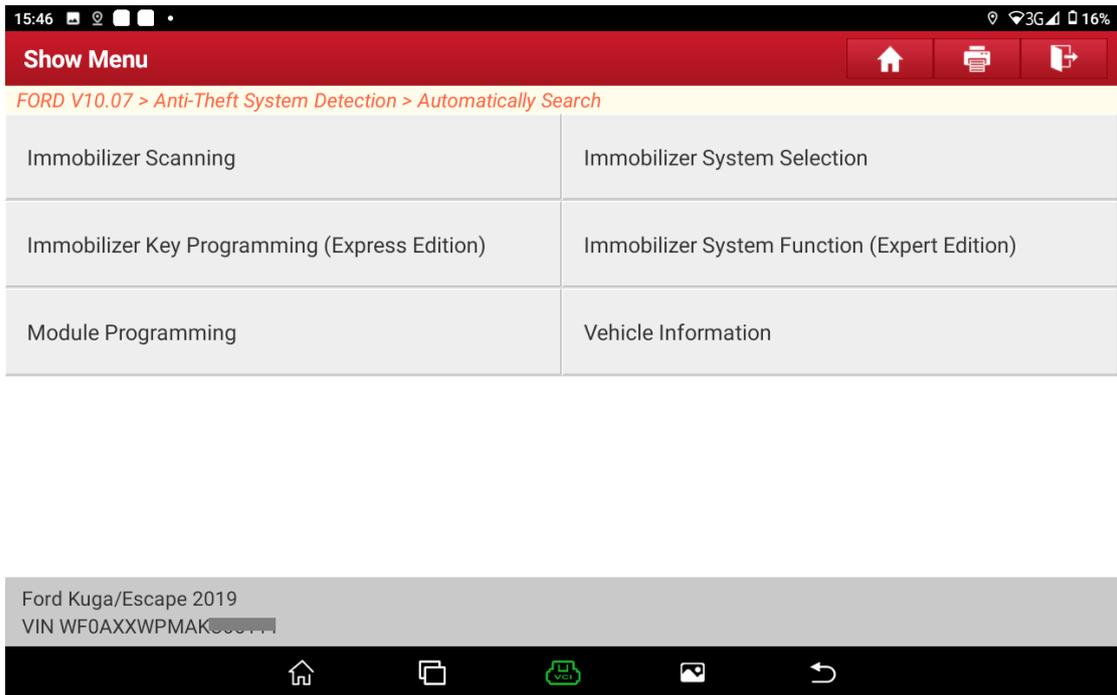

Figure 6
4. Choose [Immobilizer System Function (Expert Edition)]. See Figure 6.